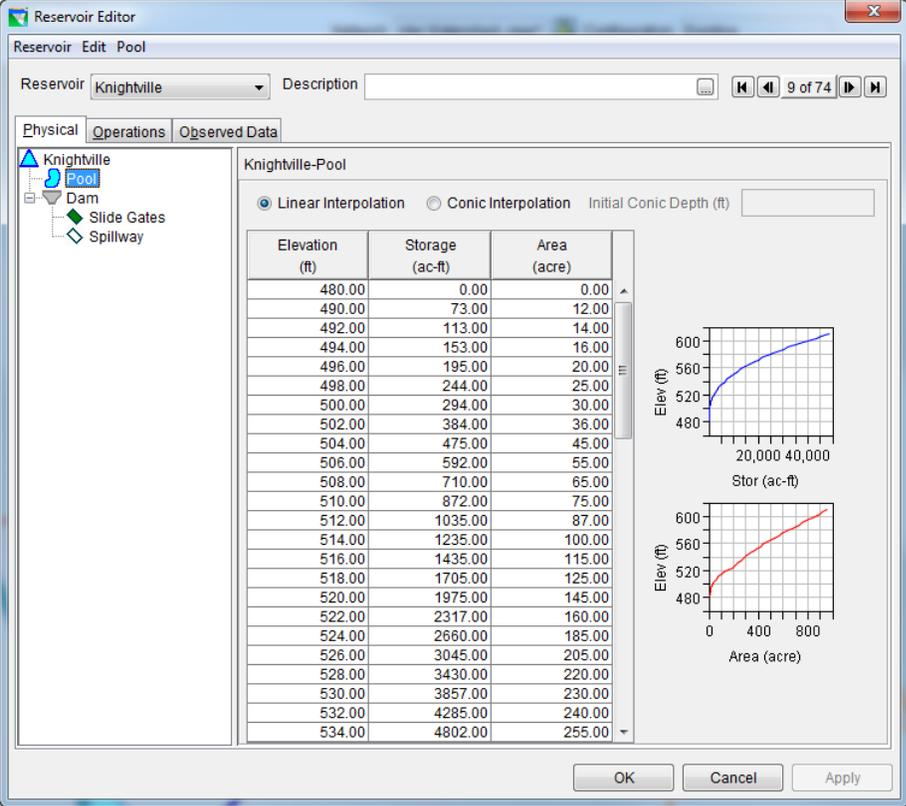
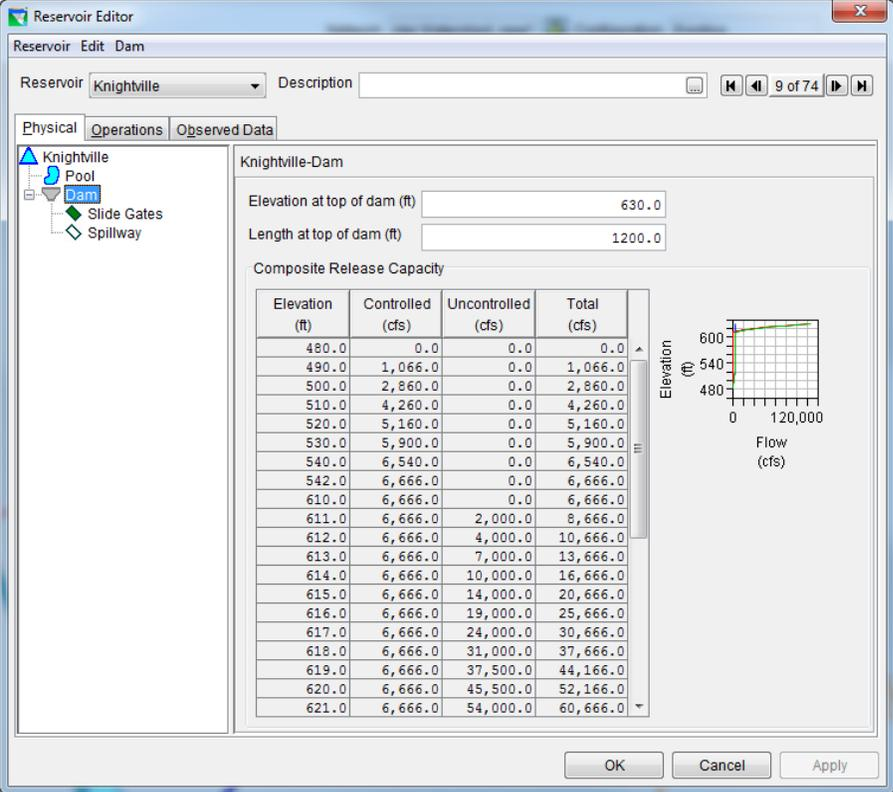

Figure 3: Reservoir Editor: Physical Tab -- Pool
Figure 4: Reservoir Editor: Physical Tab -- Dam
The physical characteristics of the reservoir are separated between the Pool and the Dam in the HEC-ResSim model. The elevation-storage-area defines the pool as shown in Figure 348. The dam consists of five types of outlets: (1) controlled Bascule Gate, (2) controlled Bypass pipe, (3) controlled Canal System, (4) controlled Spillway with gates, and (5) power plant as shown in Figure 4.
The physical characteristics of the reservoir are separated between the Pool and the Dam in the HEC-ResSim model. The elevation-storage-area defines the pool as shown in Figure 3. The dam consists of two types of outlets: (1) controlled slide gates, and (2) uncontrolled spillway, as shown in Figure 4. All physical and operations data were provided by US Army Corps New England District, through both a previously created ResSim model and the Reservoir Regulation Team website49.